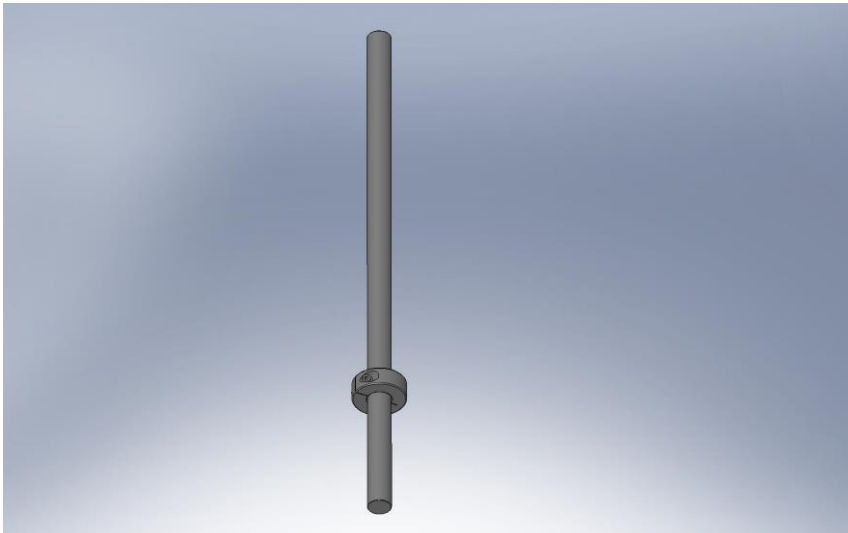

Figure 4.111. Place shaft collars toward the bottom end of (3) 1/2"x12" long dowel pins. These will help orient the Optical Table to the Stage 1 Ribs.
- Place a 1/2" shaft collar on one end of each of (3) 1/2"x12" steel shafts. Leave about 2.75" of the shaft below the collar, and clamp the collar in place. See Figure 4.111.